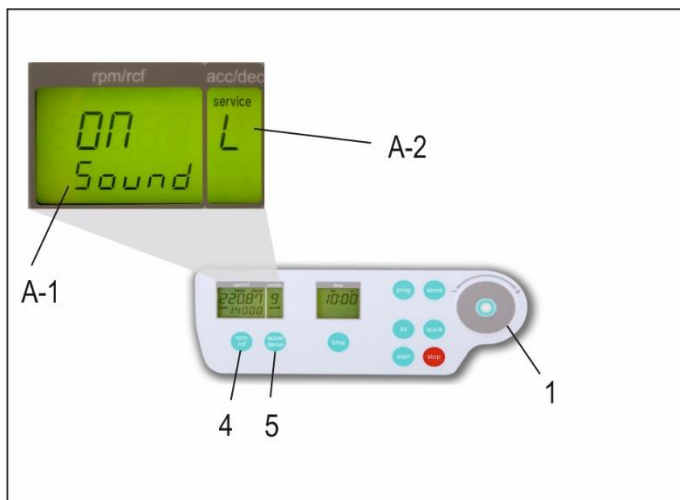

Figure 7
Proceed as illustrated, under point 1.9.1, to enter this program mode, press the key; "accel/decel" (5). In the display, "accel/decel" (A-2) flashes the word, "service". Select the letter, "L" with the control field (1). As a result, appearing in the display "rpm/rcf" (4), are the words, "On Sound". By pressing the key, "rpm/rcf" (4), the word "On" flashes, and the sound can be switched off with the control field (1), (see Figure 7).